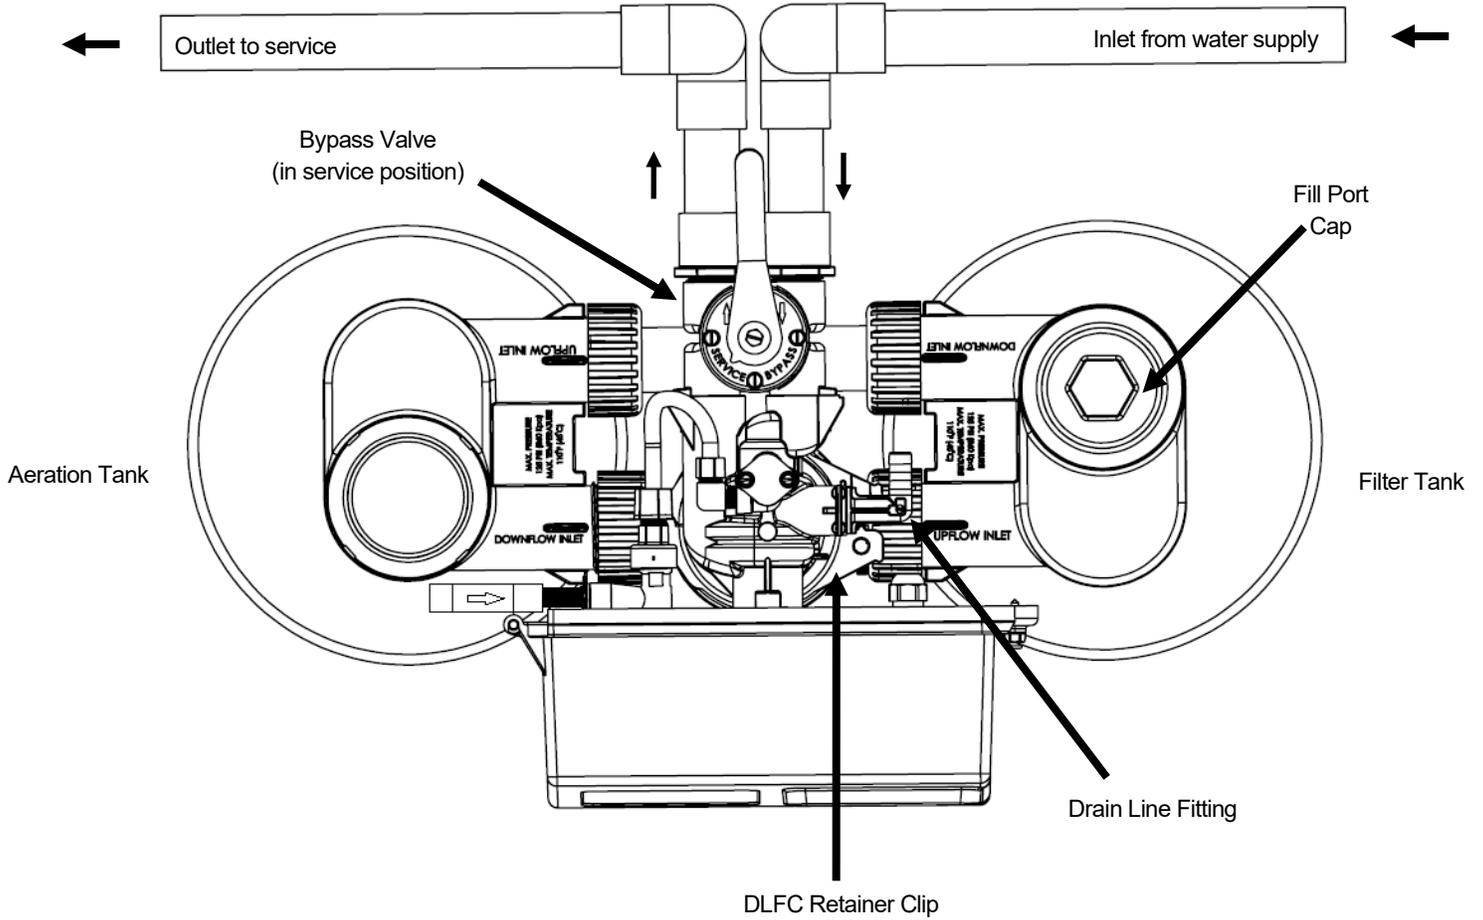

FIGURE 2: Tank Positioning and Fill port Location
- STEP 1:** If media is already loaded in filter tank proceed to Step 4. Otherwise, use the fill port wrench provided to remove the fill port cap (See Figure 2, page 5) by turning it counterclockwise.